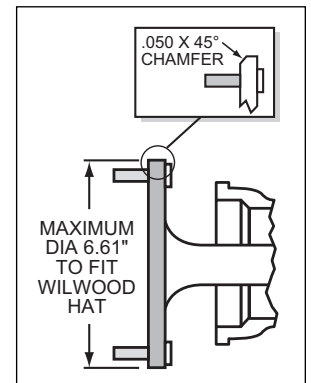

Figure 5. Axle Flange Maximum Dimension
- Maximum axle flange diameter must be no larger than 6.61" w/.050" x 45° chamfer (see Figure 5, right).